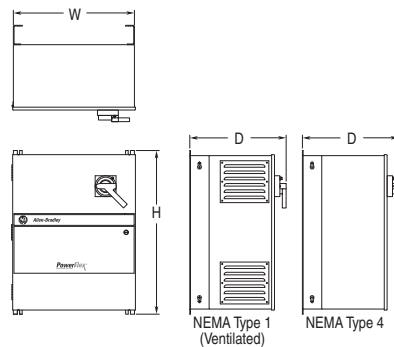
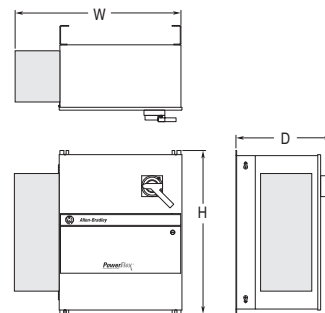

Figure 2
Figure 3
(1) Figure 2, Style 5, when one line reactor is selected. Figure 3, Style 8, when two line reactors are selected